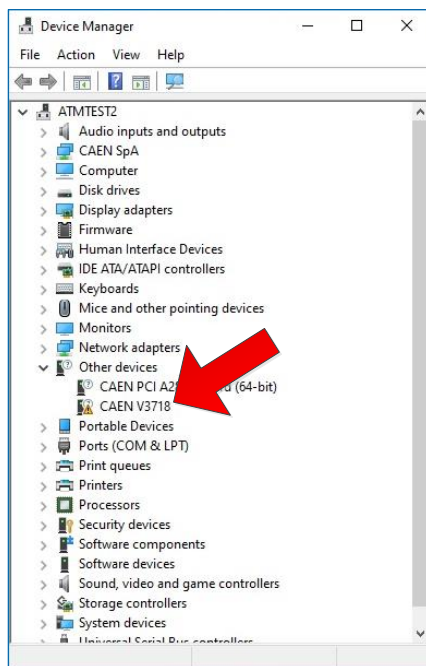

Fig. 11.1: USB Driver Installation: step 1
1. Go to the Device Manager area: find the new hardware listed under Other devices (**Fig. 11.1**).